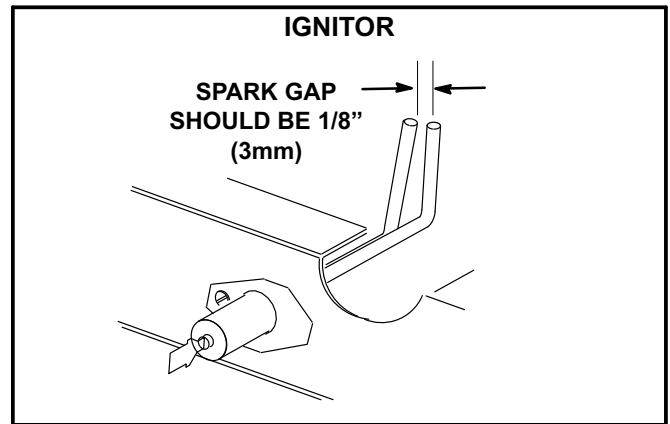

FIGURE 30
- 4- Locate the ignitor under the right burners. Check ignitor spark gap with appropriately sized twist drills or feeler gauges. See figure 30.